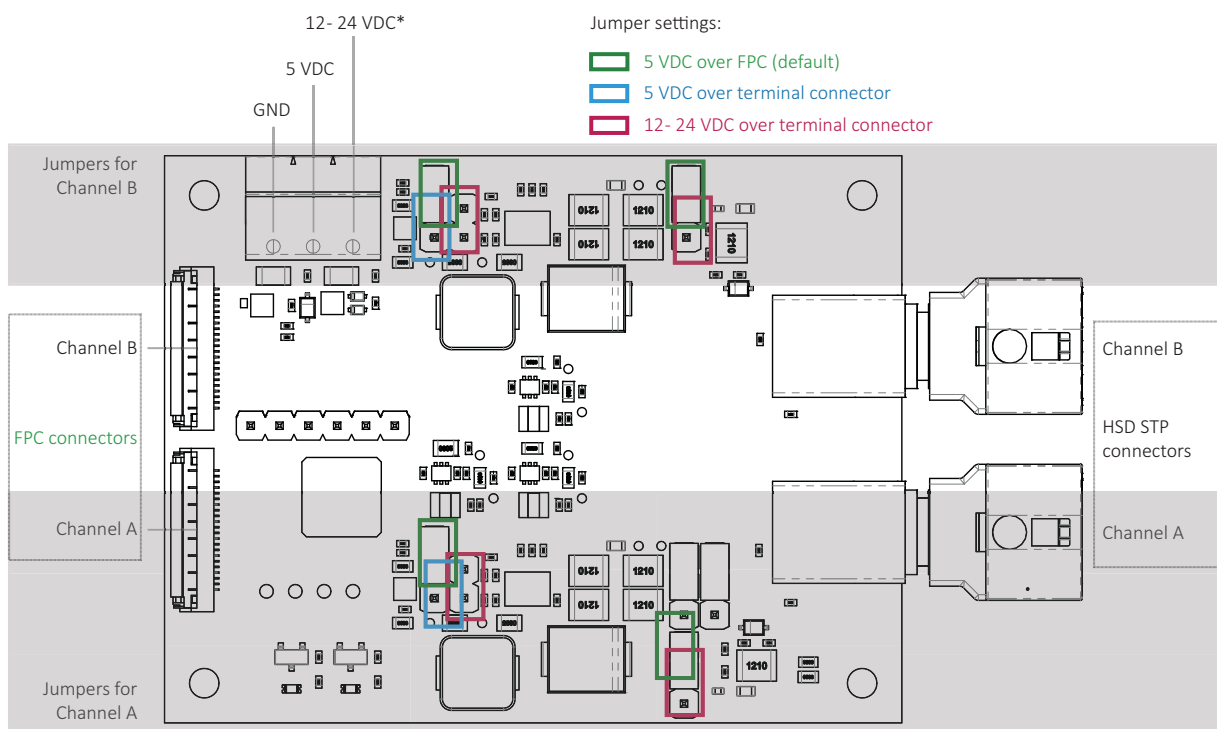

Figure 17: Connections and jumper settings for power supply
2. Set the jumpers as shown in Figure 17: